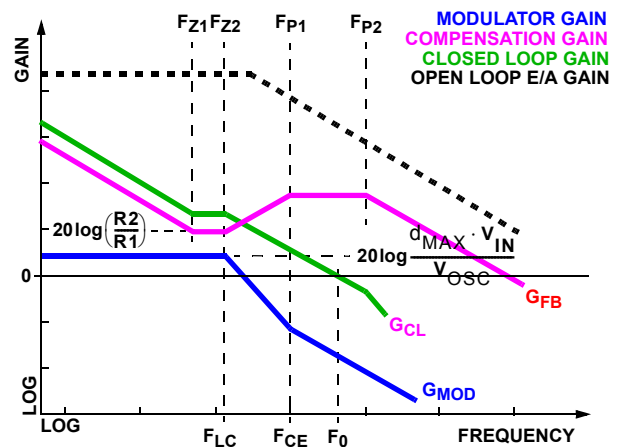

FIGURE 25. ASYMPTOTIC BODE PLOT OF CONVERTER GAIN
Figure 25 shows an asymptotic plot of the DC/DC converter's gain vs frequency. The actual Modulator Gain has a high gain peak dependent on the quality factor (Q) of the output filter, which is not shown. Using the above guidelines should yield a compensation gain similar to the curve plotted. The open loop error amplifier gain bounds the compensation gain. Check the compensation gain at FP2 against the capabilities of the error amplifier. The closed loop gain, GCL, is constructed on the log-log graph of Figure 25 by adding the modulator gain, GMOD (in dB), to the feedback compensation gain, GFB (in dB). This is equivalent to multiplying the modulator transfer function and the compensation transfer function and then plotting the resulting gain.